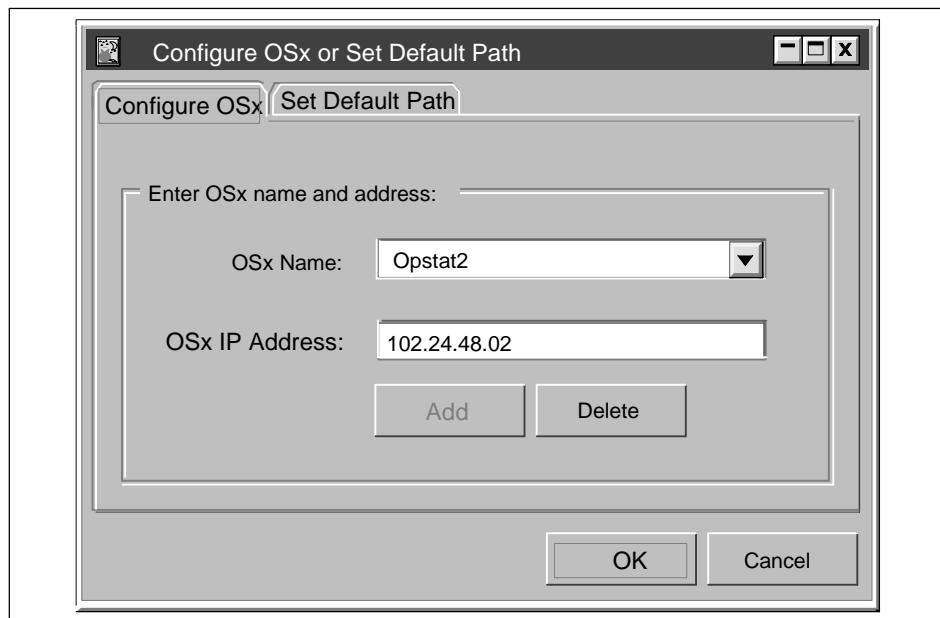

Figure 2-23 Delete a Host
2. Select the name of the OSx station that you want to delete (Figure 2-23).